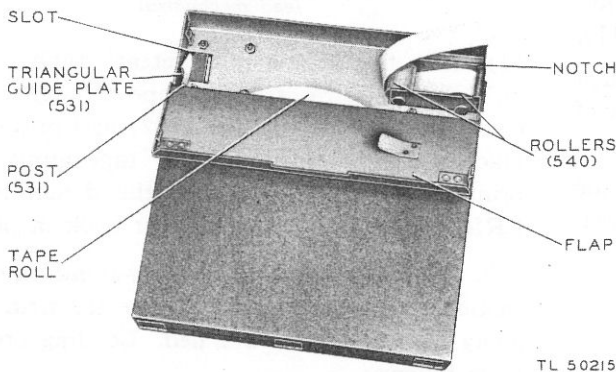

Figure 14—Installation of writing-stand tape (view 2)
(7) Loop the tape over the outer roller and under and around the inner roller, then out of the case again through the guide notch in the edge (fig. 14).
(8) Hold the end of the tape in place in the notch, and close the flap on the back of the case.
13. OPERATION. a. Starting. (1) If the rectifier is in the circuit, throw the rectifier ON-OFF switch to ON. Leave the BOOST-NORMAL switch at NORMAL, unless the battery is in a discharged condition. If the battery is low, throw the switch to BOOST, *but do not leave it in this position for more than three hours at a time.*